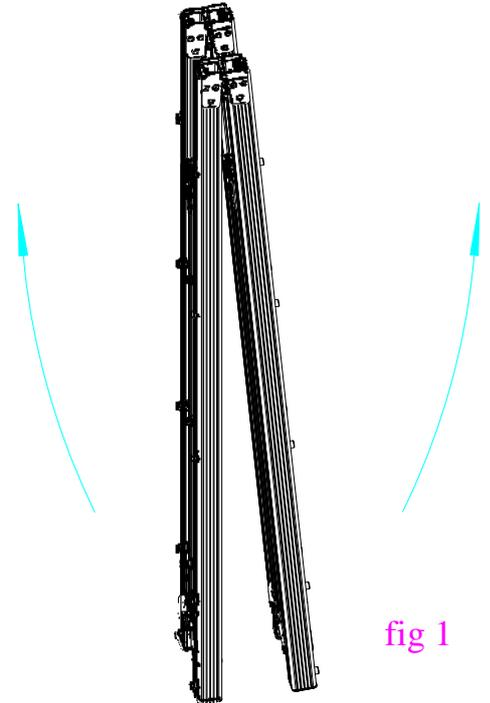

fig 1
1. Take the frame out of the case and remove its wrappings. Unfold the main joints as shown in (fig 1).